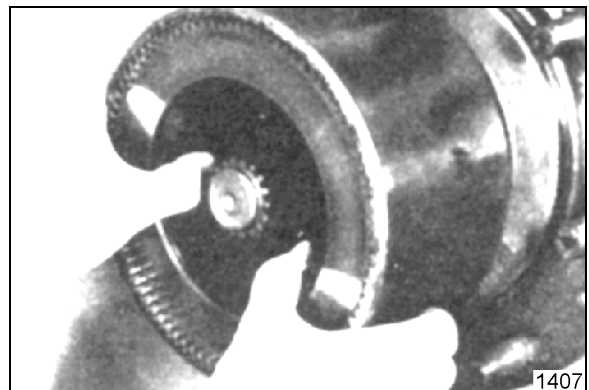

Figure 11
10. Remove ring gear plate pack (Figures 11 and 12).